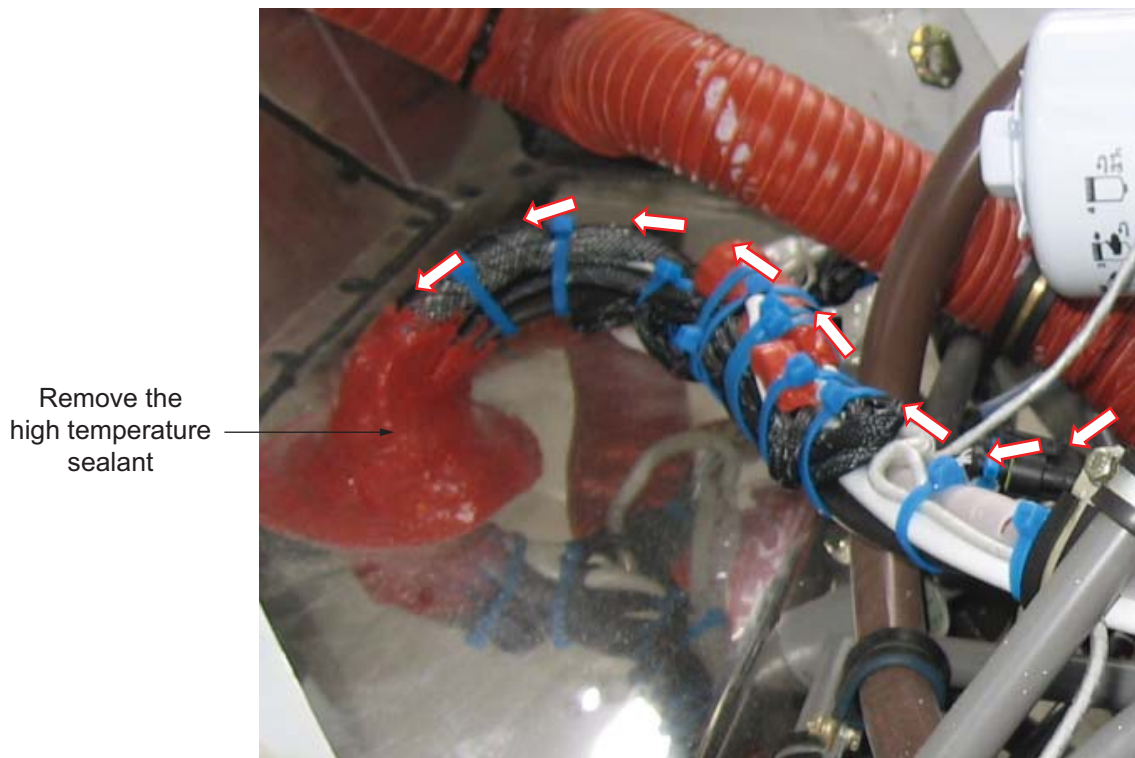

Figure 9
See Figure 9.
10.3.2.6 Remove the high temperature sealant located at firewall. See Figure 9.